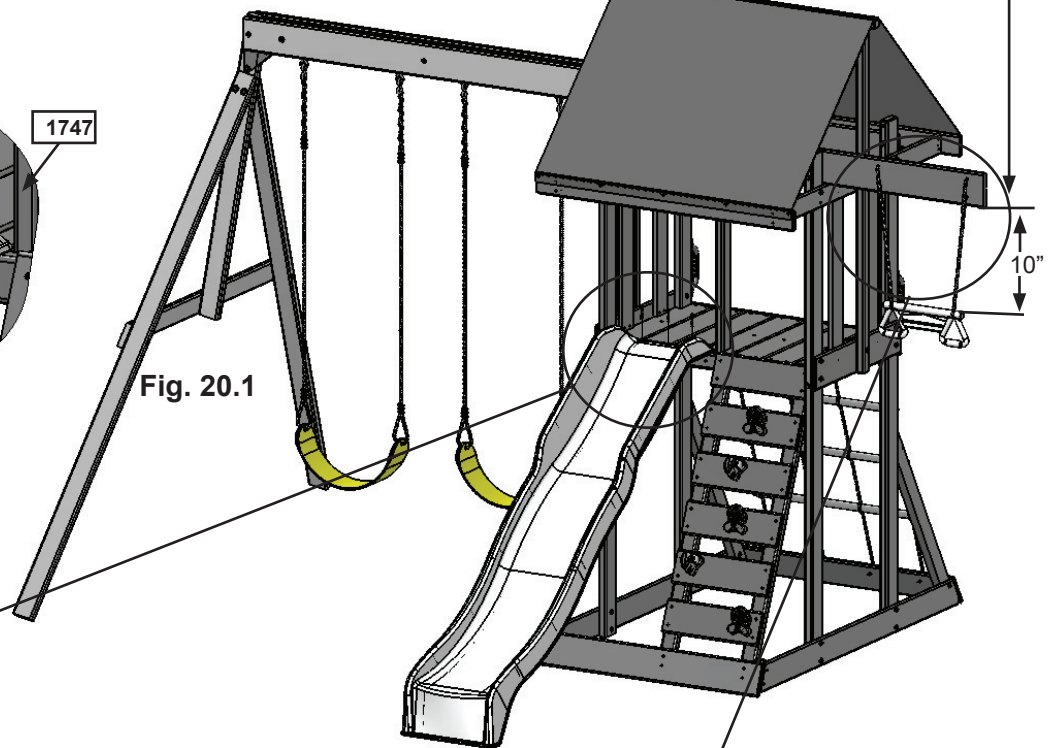

Fig. 20.1
- A:** Place Slide in the centre between (1781) Corner Post and (1747) Centre Divider. (fig. 20.1)
- C:** Attach Acro Swing to the end of (1788) Acro Top making sure the knot is tight and secure. The spacing between the Acro Swing and (1788) Acro Top should be no less than 10". (fig. 20.1 & 20.4)